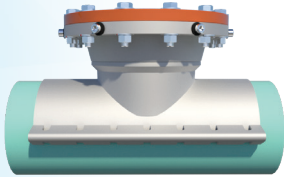

Figure 2
- 6) Mount the top half of the line stop fitting on the pipe in the position required for permanent installation (see Figure 2). Use a level to ensure the flange is level. Do not rotate the top half of the line stop fitting after it is positioned on the pipe.